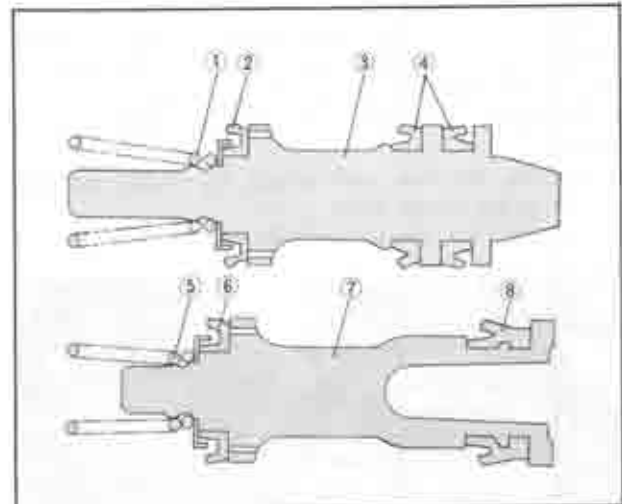

Fig. 11-11 Pistons and cups
3. Fit the secondary cup and primary cup onto the secondary piston as shown in Fig. 11-11.